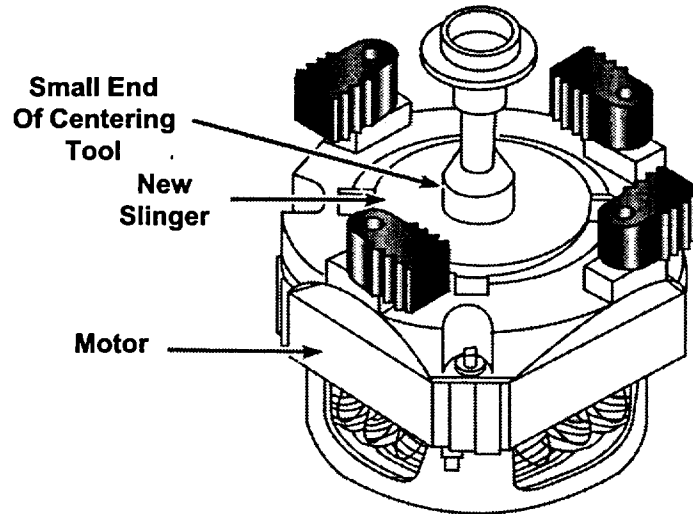

Fig. 11
1. Start the slinger down the motor shaft. Slide the small end of the centering tool down the shaft, pushing the slinger as far as possible. When it stops, the slinger will be properly positioned. (Fig. 11)